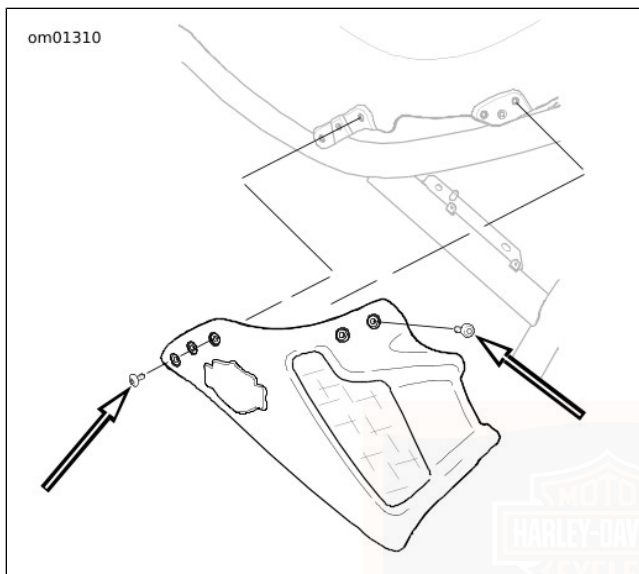

Figure 42. Front Side Cover Screws: VRSCF Model
1. See Figure 42. Remove five screws from front side cover.
1. See Figure 42. Orient the air inlet toward the front of the vehicle and align grommet in side cover with the mounting pin on frame. Press side cover to engage mounting pin.